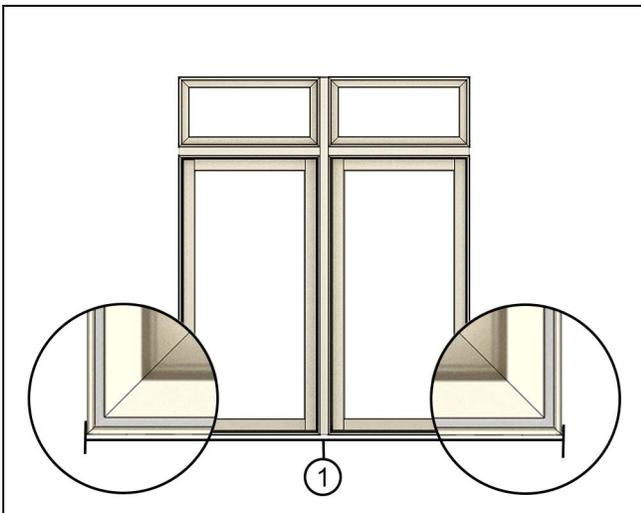

Figure 33
3. If not done already cut two pieces of A148 frame trim. Measure the outside frame measurement and subtract  $5/32''$  (4) for the finished length. Set these aside until sealant application is complete. See Figure 33.